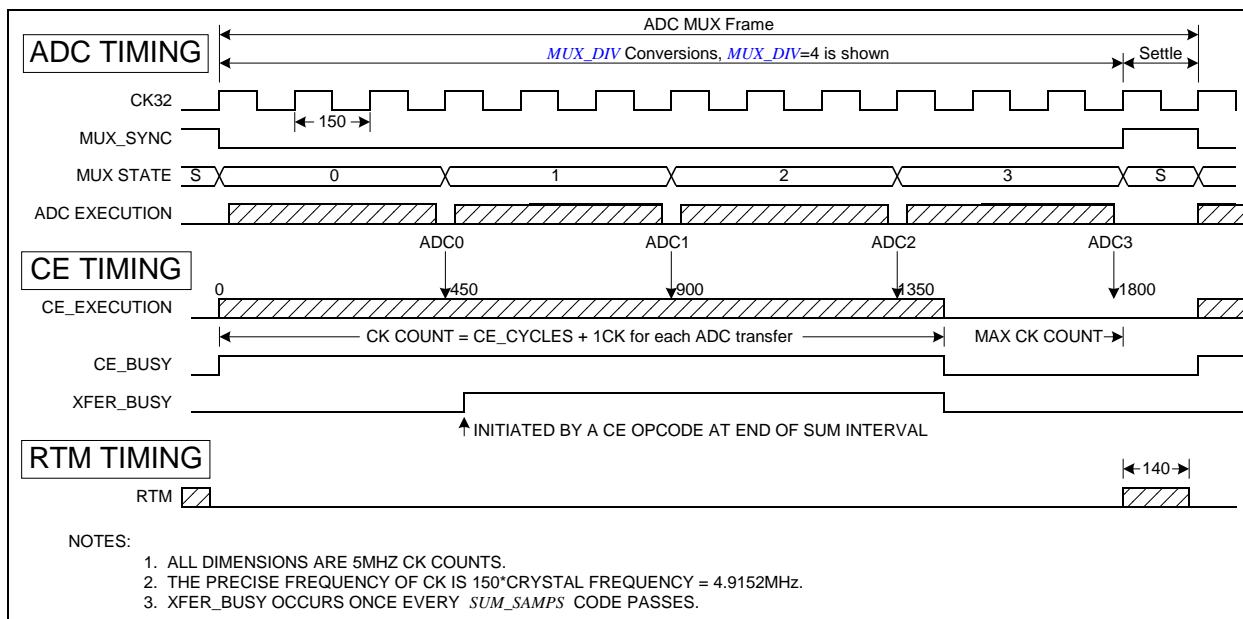

Figure 11: Timing Relationship Between ADC MUX, CE, and RTM Serial Transfer
Figure 11 summarizes the timing relationships between the input MUX states, the CE_BUSY signal, and the RTM serial output stream. In this example, $MUX_DIV[3:0] = 4$ (I/O RAM 0x2100[7:4]) and $FIR_LEN[1:0] = 10$ (I/O RAM 0x210C[1]), (384), resulting in 4 ADC conversions. An ADC conversion always consumes an integer number of CK32 clocks. Followed by the conversions is a single CK32 cycle.
Figure 11 also shows that the RTM serial data stream begins transmitting at the beginning of state S. RTM, consisting of 140 CK cycles, always finishes before the next CE code pass starts.